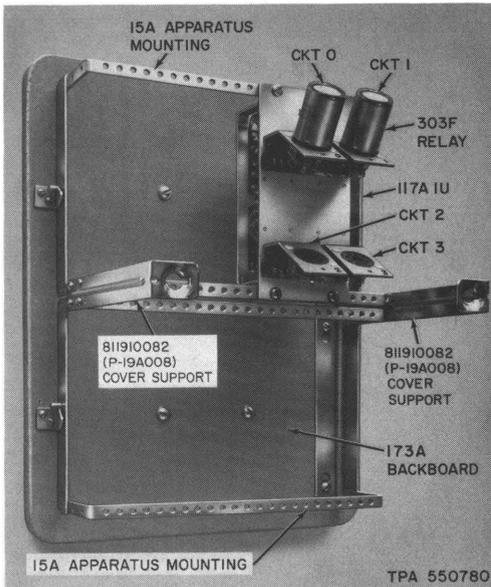
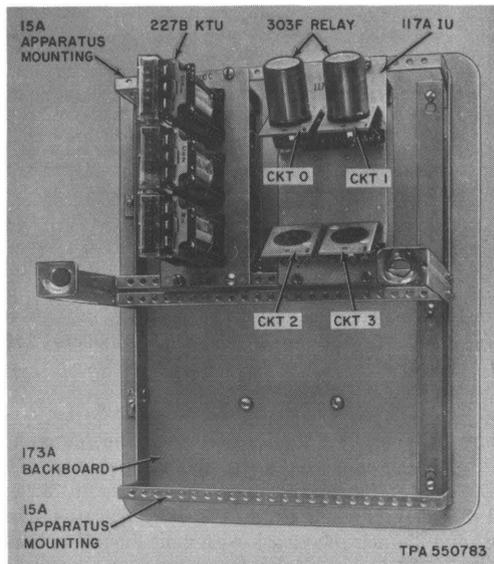

Fig. 3—Protective Connecting Arrangement RCX
Fig. 6—15A Apparatus Mounting With 117A IU and Auxiliary 227B KTU
PCA RCX (Fig. 3 and 4)
- 15A apparatus mounting will hold three 117A IUs (Fig. 3), or three 227B KTUs (Fig. 6), or four 25B KTUs mounted on two 813722048 (P-37B204) brackets.
- 3.07** When PCA RCX is used with ground start CO trunks associated with a 700-type PBX, mount an auxiliary 227B KTU on a 15A apparatus mounting (Fig. 6) or 23-inch relay rack with 67B mounting bars. Make connections as shown in Fig. 12.